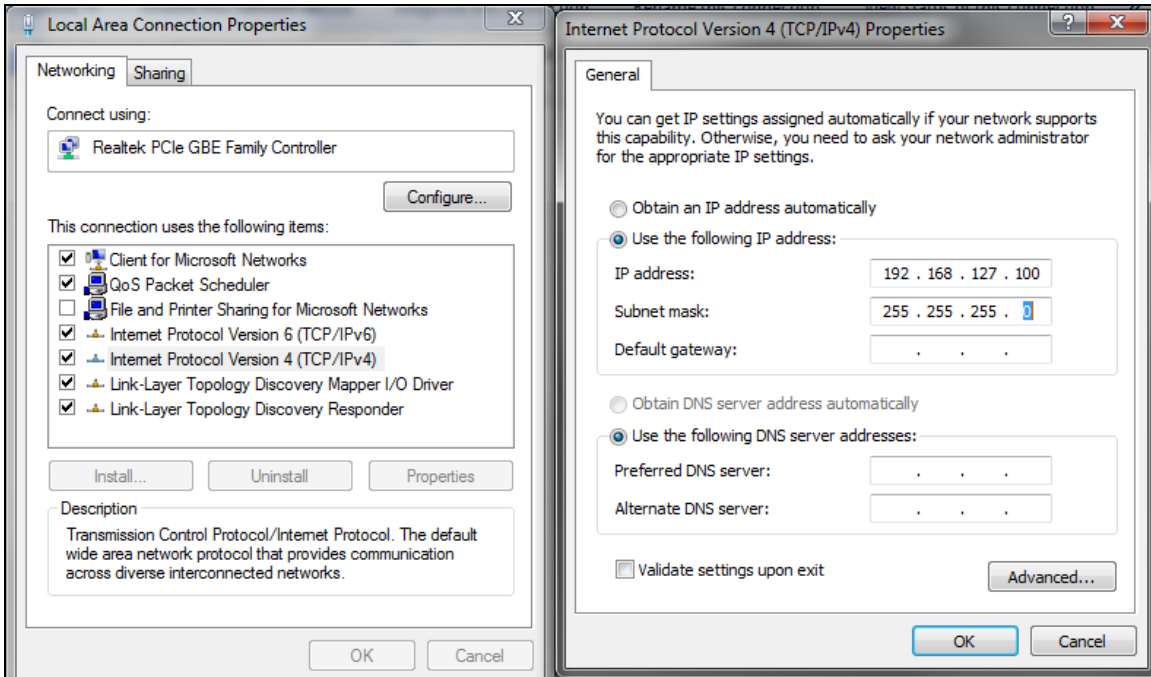

Figure 28: Setting Your PC's IP Address
The IP address can be set for you PC by navigating to Network Connections in the Control Panel, right clicking on the Local Area Connection and clicking on Properties. Select Protocol Version 4 and click Properties (Figure 28). The Windows Network Properties form should be closed to commit the new IP information to memory.
1. Setup your PC WLAN or LAN Ethernet adapter so that it is on the same subnet as the NPort. The factory default IP address is 192.168.127.253 and the subnet mask is 255.255.255.0. Your PC IP address should be set to 192.168.127.xxx (not 253). The IP address can be set for you PC by navigating to Network Connections in the Control Panel, right clicking on the Local Area Connection and clicking on Properties. Select Protocol Version 4 and click Properties (Figure 28). The Windows Network Properties form should be closed to commit the new IP information to memory.